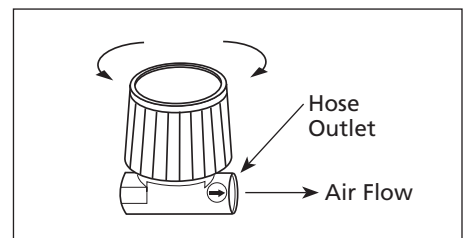

Figure 5
- NOTE:** Ensure air flow indicator arrow on regulator body points away from compressor (See Figure 5).